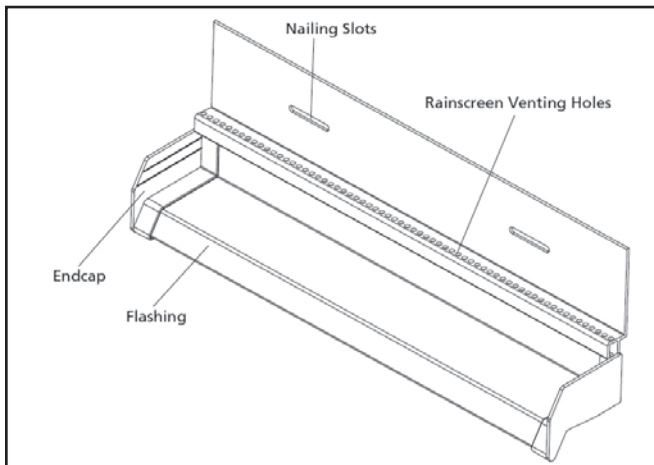

Figure 5. RainBoss above-window flashing pieces include ventilation holes to admit air to the rainscreen drainage gap.
- Above-window flashing (see Figure 5);